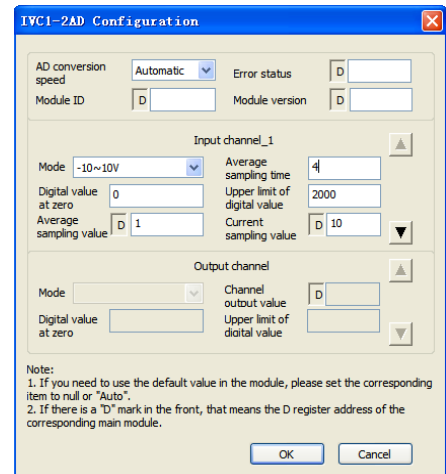

Figure 4-2 CH1 setting interface
IVC1L-2AD exchanges data with the basic module through Buffer Memory (BFM). After IVC1L-2AD is set through the host software, the basic module will write data into IVC1L-2AD BFM to set the state of IVC1L-2AD, and display the data from IVC1L-2AD on the host software interface. See figures 4-2~4-6.
- BFM#4094: module software version, displayed automatically as **Module Version** in **IVC1L-2AD Configuration** dialogue box of the host software, as shown in Figure 4-2.